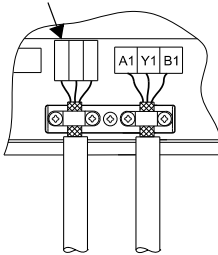

Fig. 3 Cable screens for external and internal GENibus connections fixed with cable clamps
- Use screened cables for internal GENibus. Connect the screen to the cable clamp in front of the terminals A1, Y1 and B1. See fig. 3.
- Use screened cables for CIM modules. Connect the screen to the cable clamp in front of the CIM module terminals. See fig. 3.